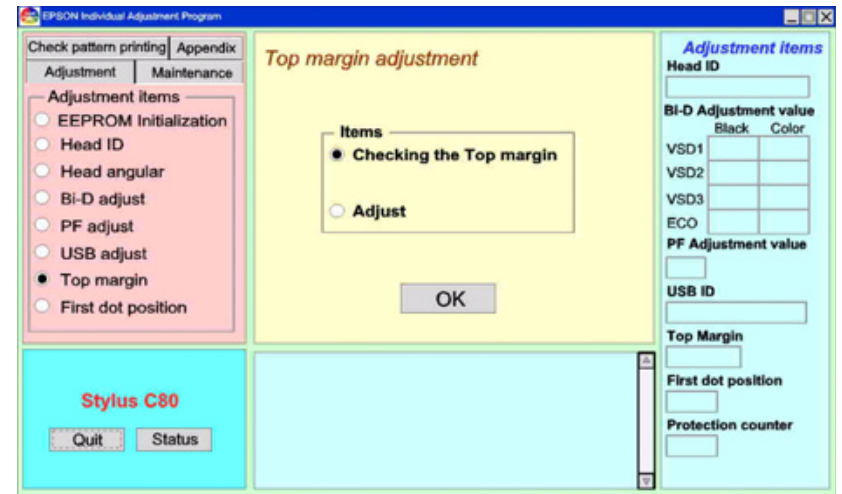

Figure 5-54. Top Margin Adjustment Initial Screen
10. Press "Previous" button on the program screen. The program screen returns to Figure 5-54 status.